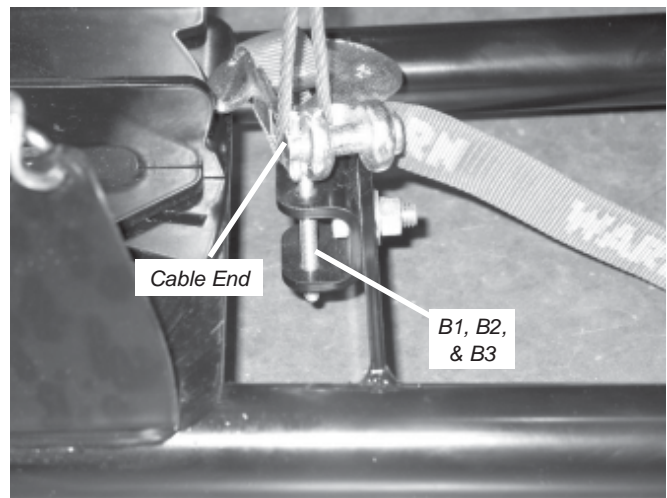

Figure 7 J-bolt and Winch Cable
8. Run the winch cable over the roller fairlead and down to the J-bolt bracket (A2). Using a 1/4" dia J-bolt (B1), hook the loop on the end of the winch cable and slide the threaded end of the J-bolt through the round holes in the J-bolt bracket. The hook end of the J-bolt should slide into the slotted hole in the J-bolt bracket. Terminate the end of the J-bolt with a 1/4" dia flat washer (B2) and 1/4" dia nylock nut (B3). Tighten the nut until the winch cable is snug inside the J-bolt as shown in figure 7.